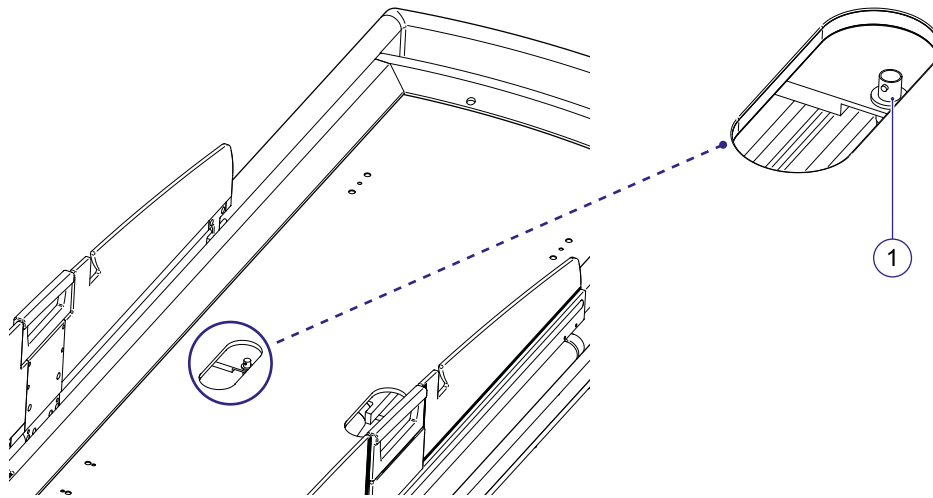

Figure 3.34 The cable connector below the mattresses
The cable (6) behind the QA tool Plus is attached to a special connector (1), see **Figure 3.34**: